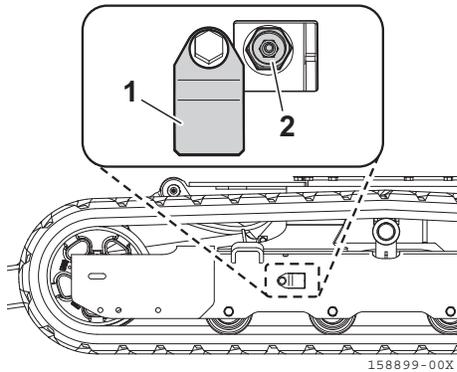

Fig. 8-9
1. Remove the cover (**Fig. 8-9, 1**).
2. Raise the machine using the implement and the safety blocks. Inject grease through the nipple valve (**Fig. 8-9, 2**) using a grease gun until the rubber crawler tension has achieved the proper clearance [0.3 to 0.5 in. (8 to 13 mm)].
5. Install the cover (**Fig. 8-9, 1**).